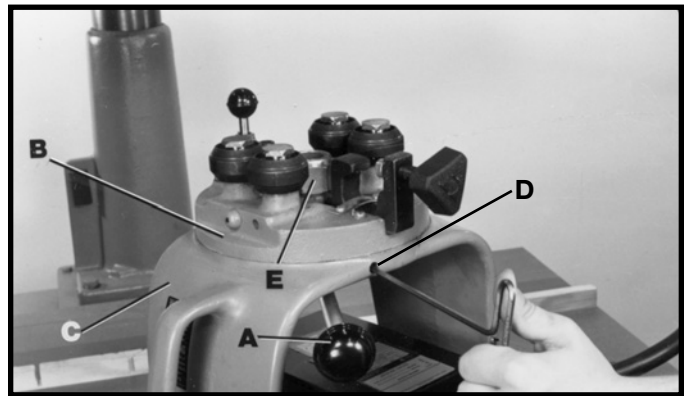

Fig. 32
After extended use "play" may develop between yoke (C) Fig. 32, and bearing carriage (B). To reduce "play":
3. Remove yoke assembly from track-arm and place yoke assembly (C) Fig. 32 on saw table.
4. Pull yoke clamp handle (A) to the position shown in Fig. 32 to loosen, and loosen set screw (D) one turn only.
5. Turn nut (E) Fig. 32 clockwise until "play" between the yoke (C) and bearing carriage (B) is removed. Then tighten set screw (D), Fig. 32.
6. Tighten yoke clamp handle (A) Fig. 32 by moving it forward, and reassemble yoke (C) assembly to track-arm.